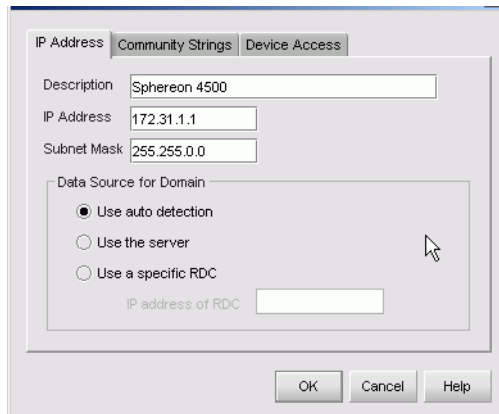

Figure 3-29 Domain Information Dialog Box (IP Address Page)
- c. Click **Yes**. The *Domain Information* dialog box displays with the *IP Address* page open (Figure 3-29).